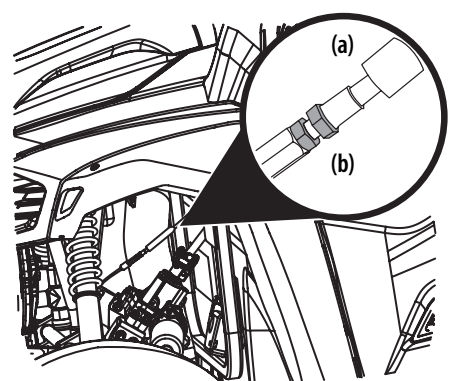

Figure 5-17
1. Look inside the driver's side wheel well and locate the adjustment point. Slide back the rubber cover (a) on the adjustment nuts (b). See Figure 5-17.
2. Adjust the parking brake handle nuts (b) until the free play in the handle is gone. See Figure 5-17.